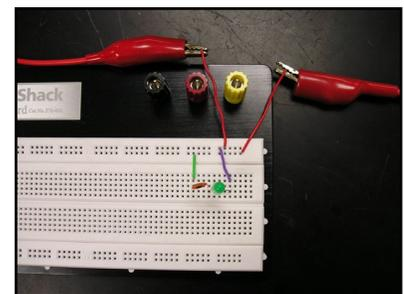
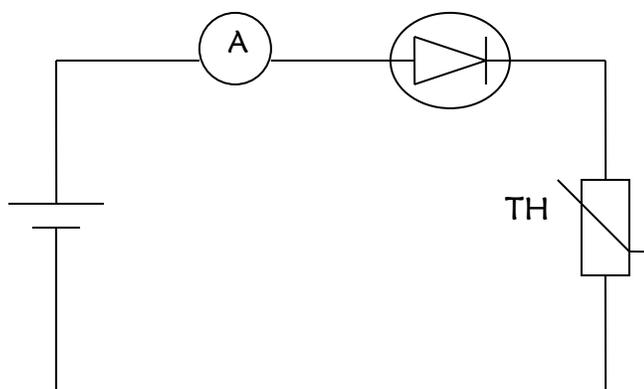

Figure 1. Breadboard setup.
Figure 2. Series circuit of a thermistor and LED or light bulb.
1. Create a series circuit on the breadboard without attaching the power supply. Place the thermistor before the Holiday light bulb or LED. Figure 1 is the breadboard setup. Figure 2, below is the schematic.